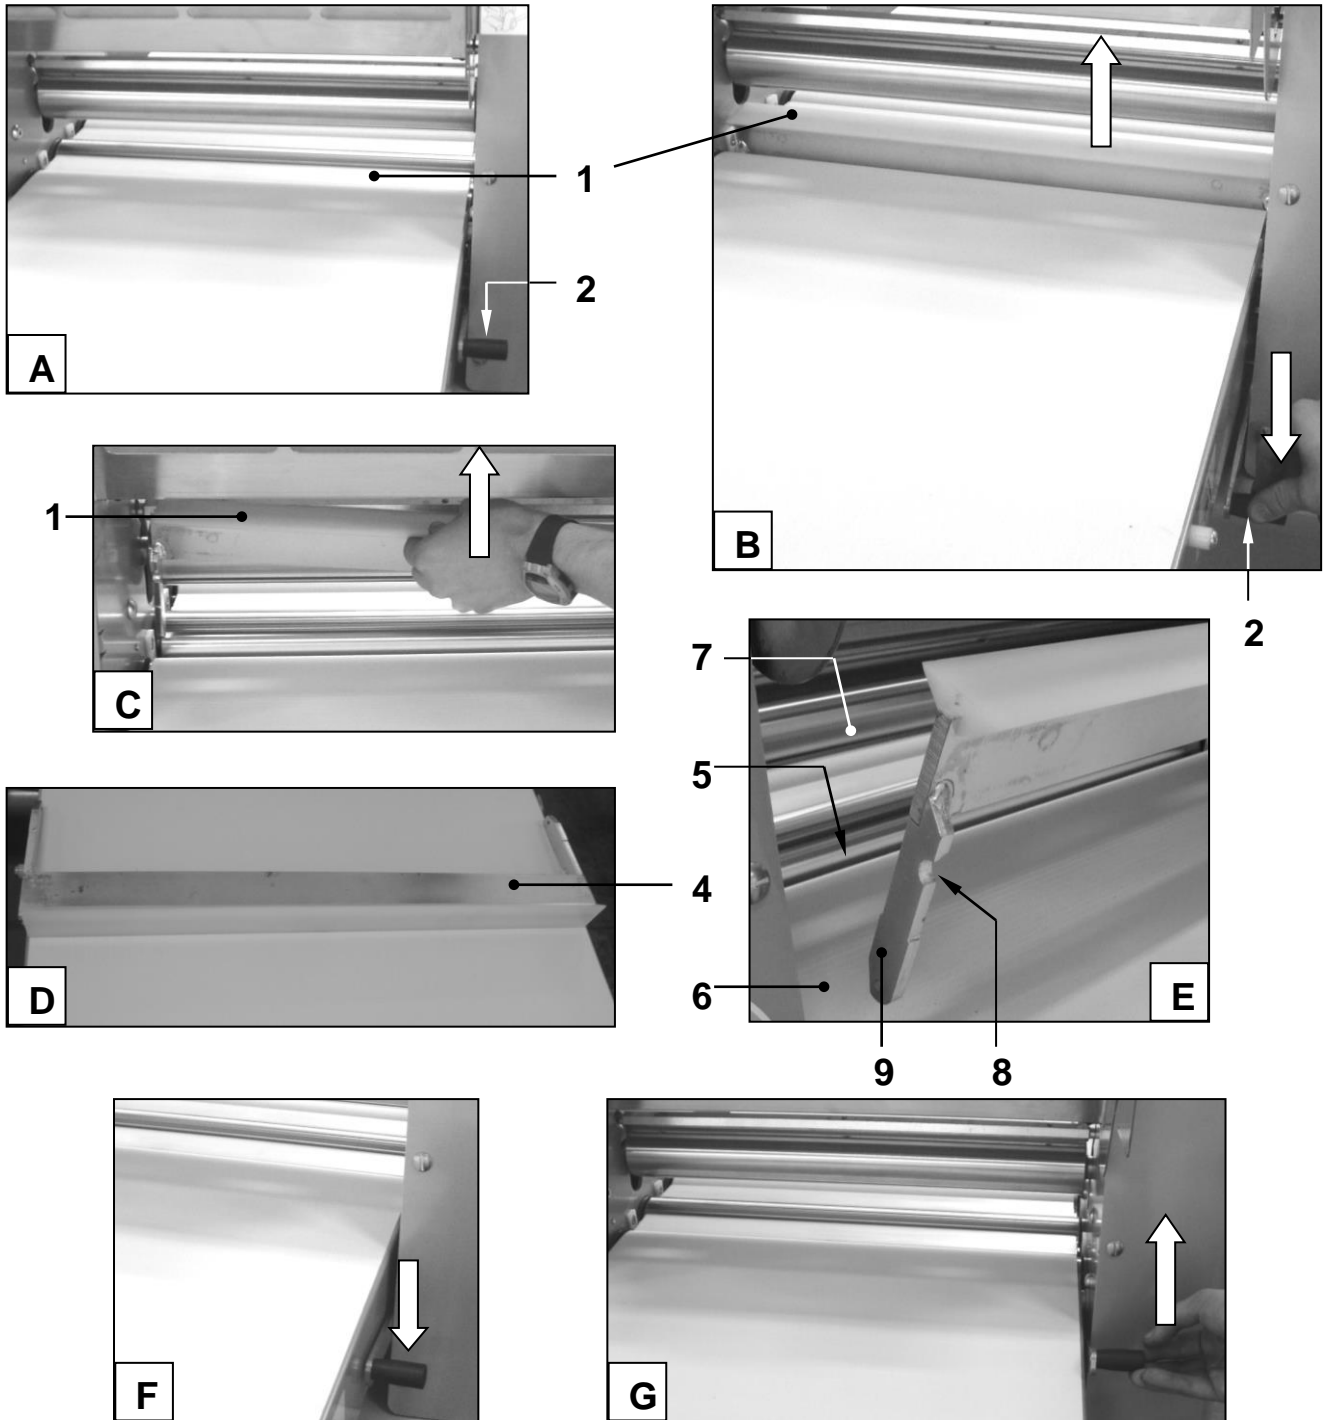

Fig. 7.3
With reference to Figure 7.3, **to disassemble a scraper** ref. 1 completely lower the lever ref. 2 (photos A - B); the scraper will detach from the belt and the sheeting roller and it will be possible to remove it with an upwards motion (photos C - D).